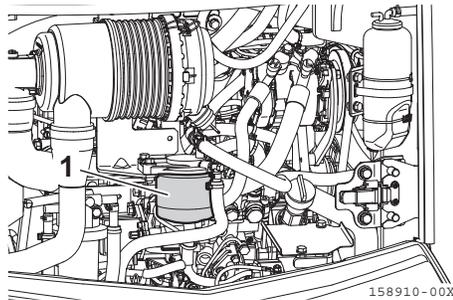

Fig. 8-46
2. Place the container for fuel under the fuel filter (Fig. 8-46, 1).
3. Turn the fuel filter (Fig. 8-46, 1) counter-clockwise to remove with a filter wrench.
4. Clean the fuel filter (Fig. 8-46, 1) mount. Fill up a new filter with fuel and install it with the engine oil applied to its seal surface.
5. After the fuel filter (Fig. 8-46, 1) has been replaced, bleed the air.